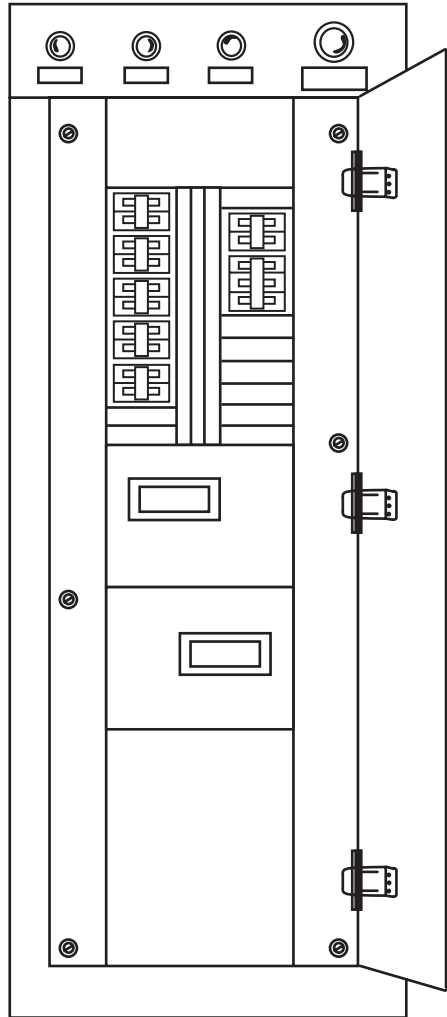

Figure 12. Load Center Distribution Panel
1. Load center distribution panel (figure 12), located on the aft bulkhead of the EOS.